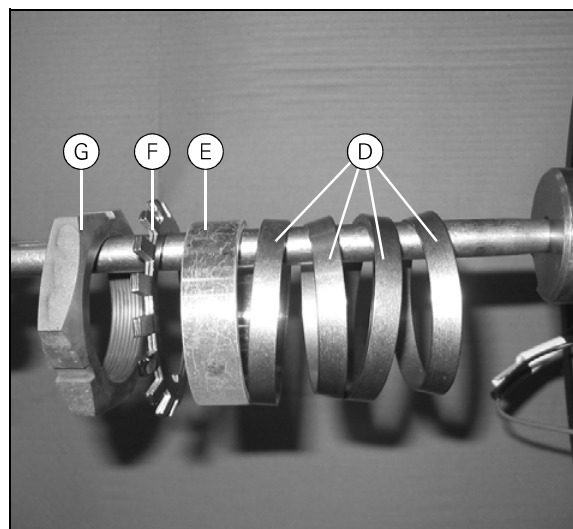

Fig. 43
- Fit the two sets of tightening elements (D), spacing sleeve (E), lock plate (F) and centre nut (G) in the order shown in (Fig. 43).
- Tighten the centre nut (G) by 600 Nm.